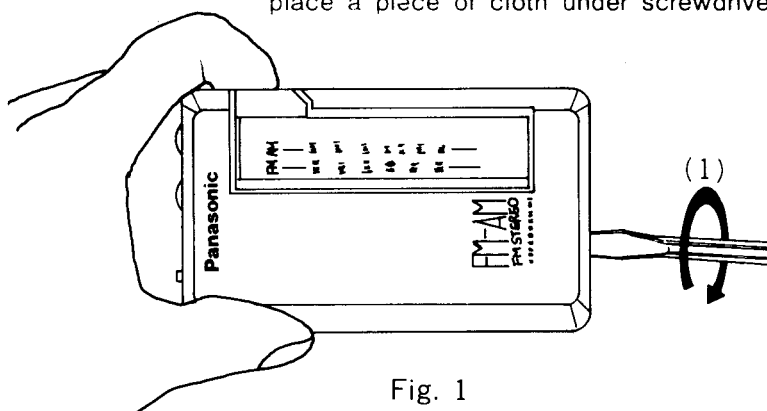

Fig. 1
1. Remove the Front Cabinet in the direction of arrow (1). (Fig. 1)